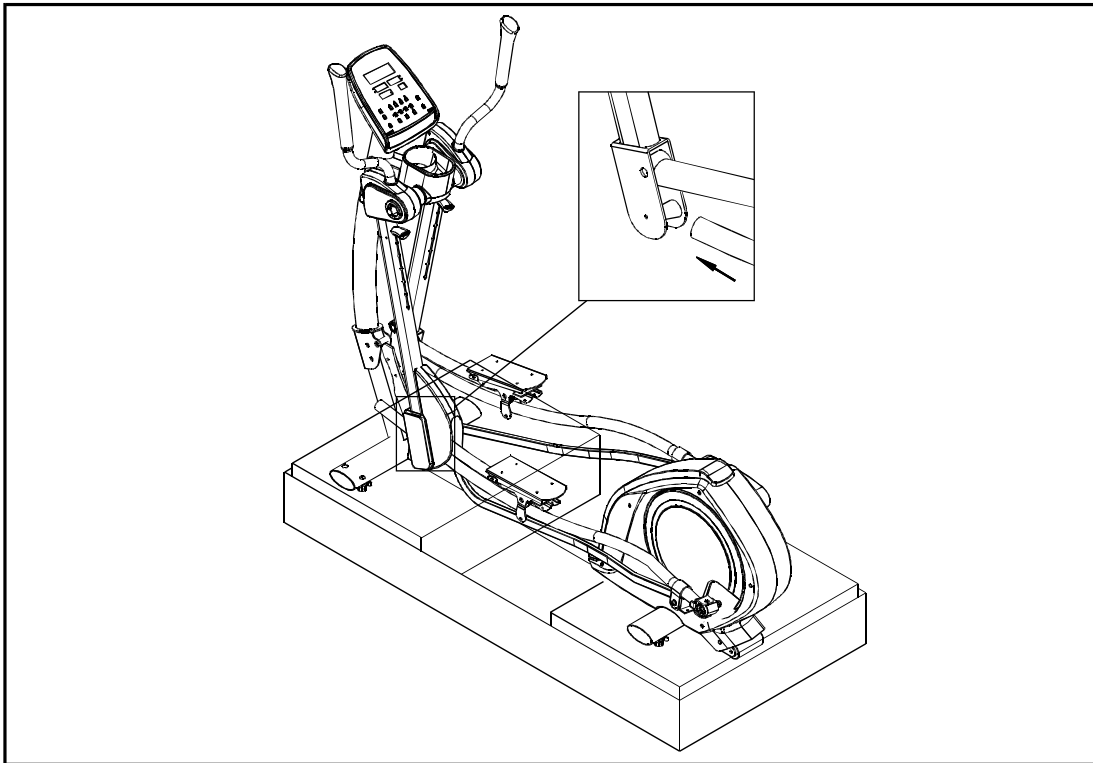

Fig.2
**STEP 3.** Then, raise the Stride Support Assembly ① and pedal carriage ②. Place the tip of the food pad surface on the ground ③. Do this step on the other side of the unit as well.
**STEP 5.** Slip one Glide Rail into place under the roller on the Pedal Carriage and also on the roller on the Stride Support Assembly. (See Fig 2)